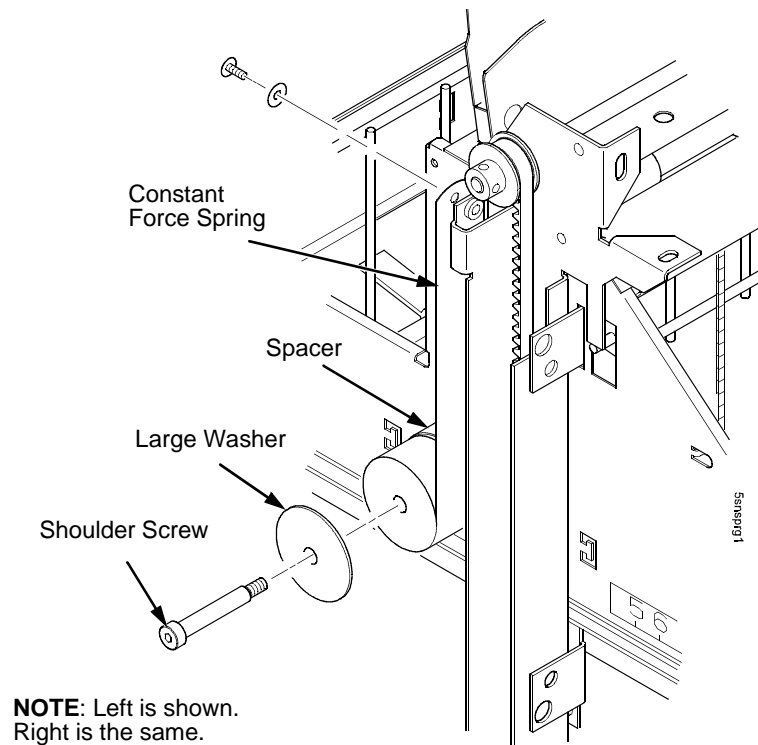

Figure 91. Releasing the Constant Force Spring
6. Remove the shoulder screw and large washer that secure the constant force spring to the vertical rail. (Figure 91.)